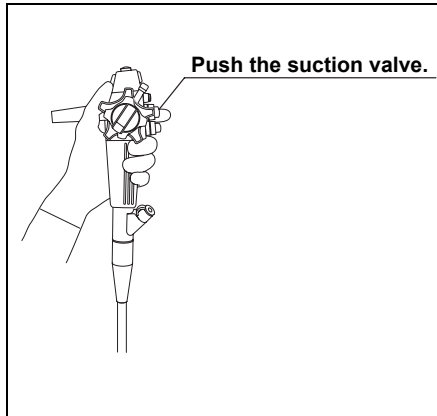

Figure 3.17
3. While gently pressing the suction valve, inject the tap water into the endoscope's suction connector (see Figure 3.17).